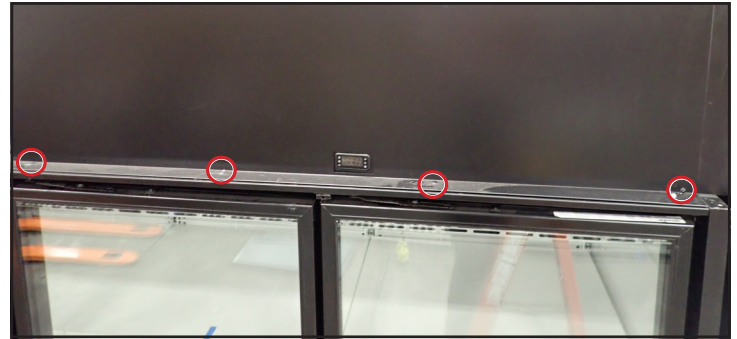

Fig. 1. Front shroud screw locations.
2. Remove the front shroud(s). See fig. 1.